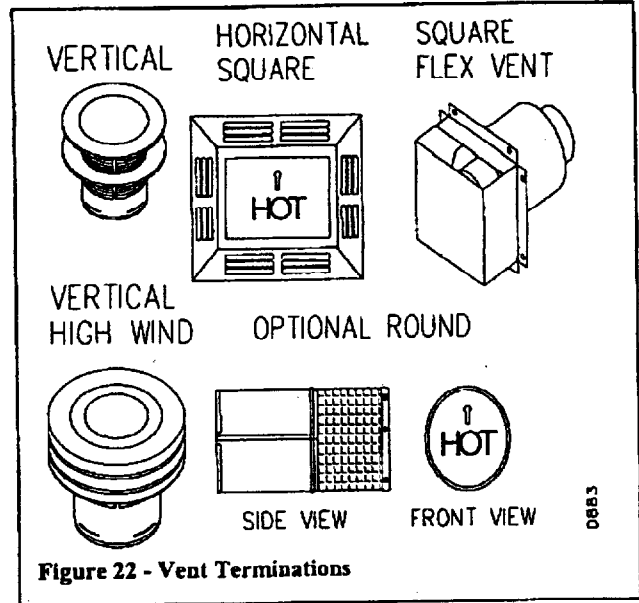

Figure 22 - Vent Terminations
4. Three types of vent caps are available for horizontal terminations. Two square terminals are available; one for rigid pipe applications and one for flex pipe applications. A round vent termination with a slip fit connection is also provided for rigid pipe applications, when a wall thickness or off spacing must be accommodated. See figure 22 on page 10. Each may be purchased as a kit, which includes a 45° elbow and a firestop that accommodates a square or round termination. When installing a square termination, apply a bead of non-hardening mastic around the outside edge of the vent cap. Position the square or the round vent cap in the center of the 7 1/2" hole on the exterior wall or in a firestop when installed over a 9 1/2" square cutout. Make certain that the arrow on the vent cap is pointing up after making the final connection. If installing the square flex vent termination the square open must be pointing up. The firestop must be used to insure that the proper clearance of 1" to combustibles is maintained. If using the square vent attach the vent cap with four wood screws. If installing the round vent cap use the firestop provided with the installation kit to accommodate the square hole and then seal the remaining edge with mastic. Note: Replace the wood screws with the appropriate type of removable fasteners for stucco, brick, concrete or other types of siding.